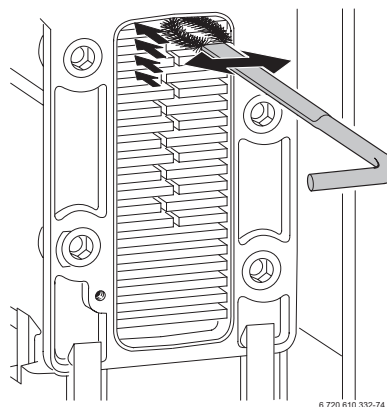

Fig. 52
- ▶ Clean the heat exchanger from top to bottom using the brush. Refer to fig. 52.